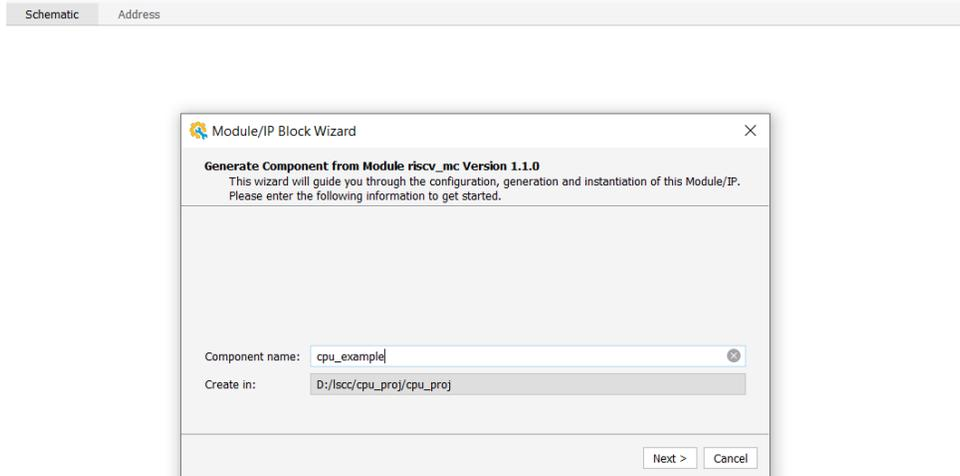

Figure 3.1. Entering Component Name
2. Enter the component name. Click **Next** (Figure 3.1).